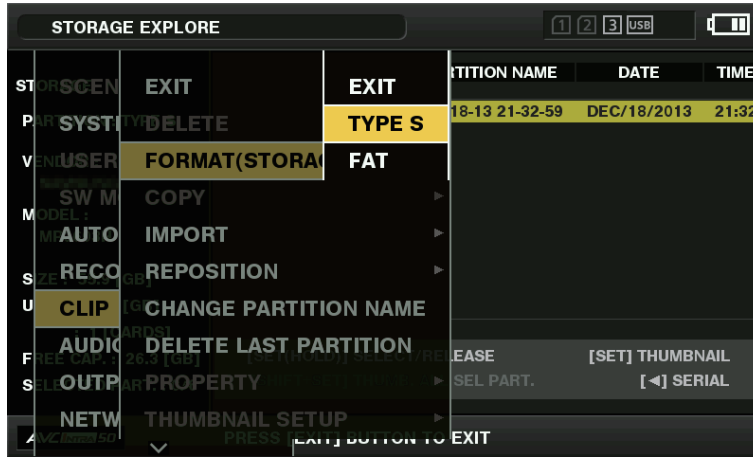

Fig. 1
- 2 Select the desired format ([TYPE S], [FAT]) in the main menu → [CLIP] → [FORMAT(STORAGE)] and press the control stick. (Fig. 1)